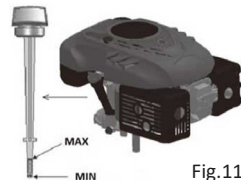

Fig.11
- The drain plug is located under the engine (Fig. 11 - item 1).
- Place a suitable container under the engine to collect the used oil and remove the cap. Tilt the mower so that all the oil drains out of the oil tank. After draining the oil, replace the cap in the hole, making sure it is securely fastened, and wipe up any oil that has spilled (Fig. 11).
- Add SAE30 or 15W-40 oil to the oil container. When the oil level indicator is inserted into the hole and screwed in, the oil level should be between the Min and Max marks (Fig. 11). Do not overfill the container.